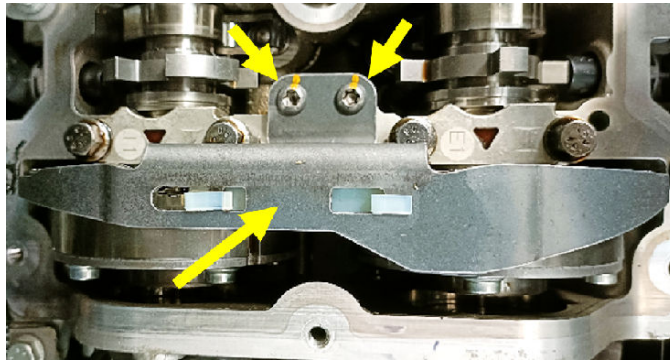

Fig. 16
26. Install the new guide rail (“snubber”) Fig. 16. Tighten the screws to the torque specified in table 3 below.